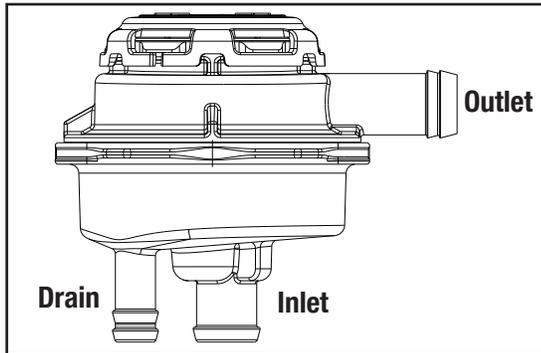

Figure 1: CV Unit Preferred Orientation: Oil Drain Port Pointing Down
- Make sure the CV unit is placed in the right orientation with respect to the flow direction, refer to Figure 1 for guidance.